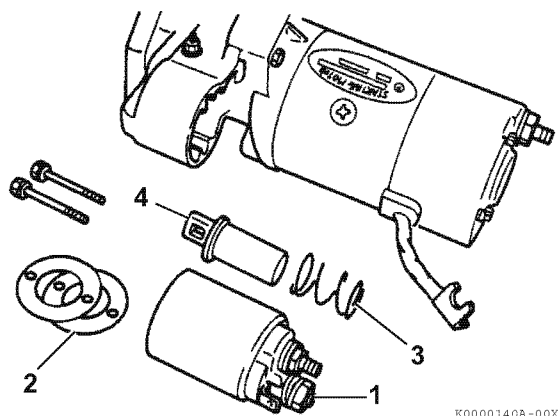

Figure 10-4
3. Remove the two bolts or nuts retaining the solenoid switch assembly (Figure 10-4, (1)) to the pinion housing. Remove the solenoid switch assembly and dust covers (Figure 10-4, (2)). Remove the plunger (Figure 10-4, (4)) and torsion spring (Figure 10-4, (3)) from the pinion housing.